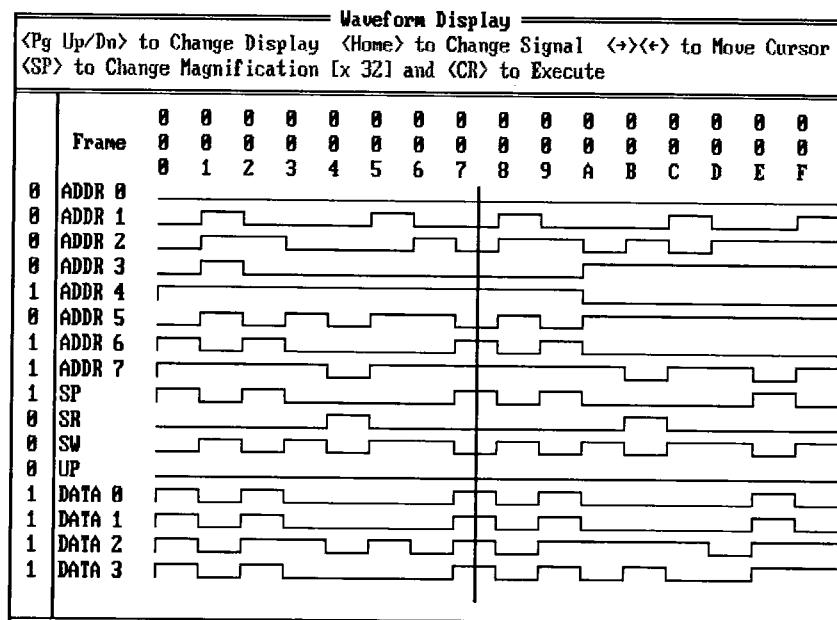

Figure 5-75 Logic State Analysis Waveform Display
The resulting signal waveform will display from top to bottom in the same order as they are entered in the **Label** fields. See Figure 5-75.
5. After all selections are set, press <F10> to display the waveform diagram (Figure 5-75).